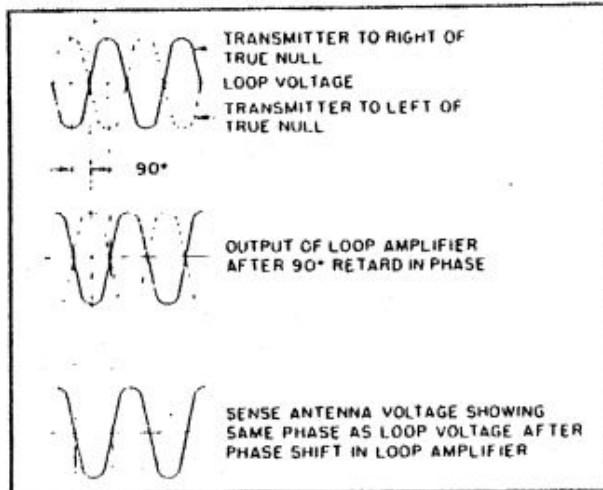

Figure 4-3. Phase Relations, Loop and Antenna Circuits
(2) *COMPASS OPERATION.* (See figures 4-3, 4-4, 4-5, and 4-6.)
or in phase opposition to the voltage received by the sense antenna depending on which edge of the loop is nearer the transmitter. This is shown in figure 4-3.